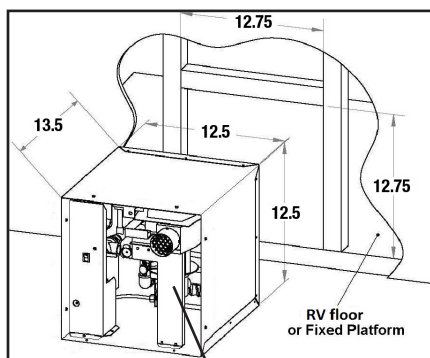

Figure 1
- DO NOT lift the water heater or carry it by holding the blower assembly support bracket/exhaust tube (Figure 1).
Make sure that the front edge of the opening is surrounded by a solid frame to firmly anchor the water heater; if needed, build an appropriate frame using 2"X2" elements (Figure 1)
- Lifting or moving the water heater using the Blower Assembly Support Bracket/Exhaust Tube (Figure 1) may result in improper alignment of the vent and/or improper alignment of the Sail Switch.